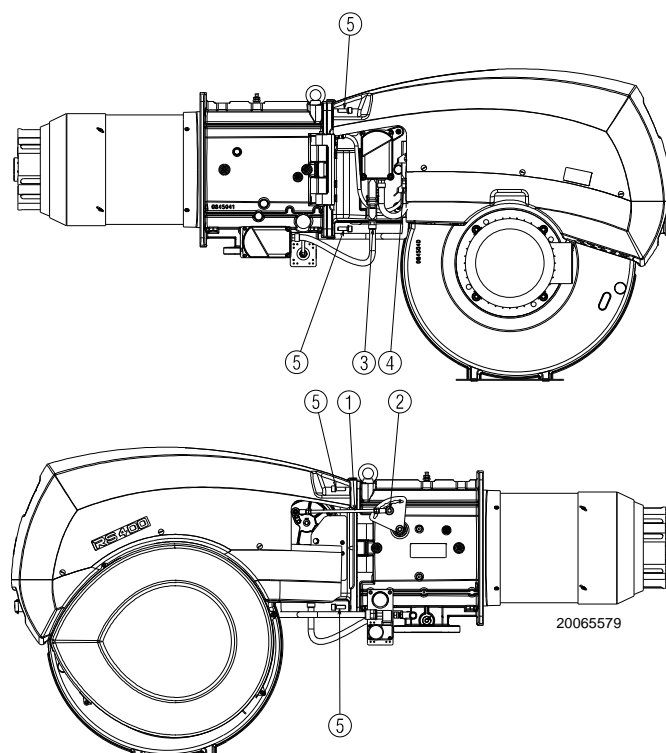

Fig. 31
- Remove the tie-rod 1)(Fig. 31) of the head movement lever, undoing the nut 2).